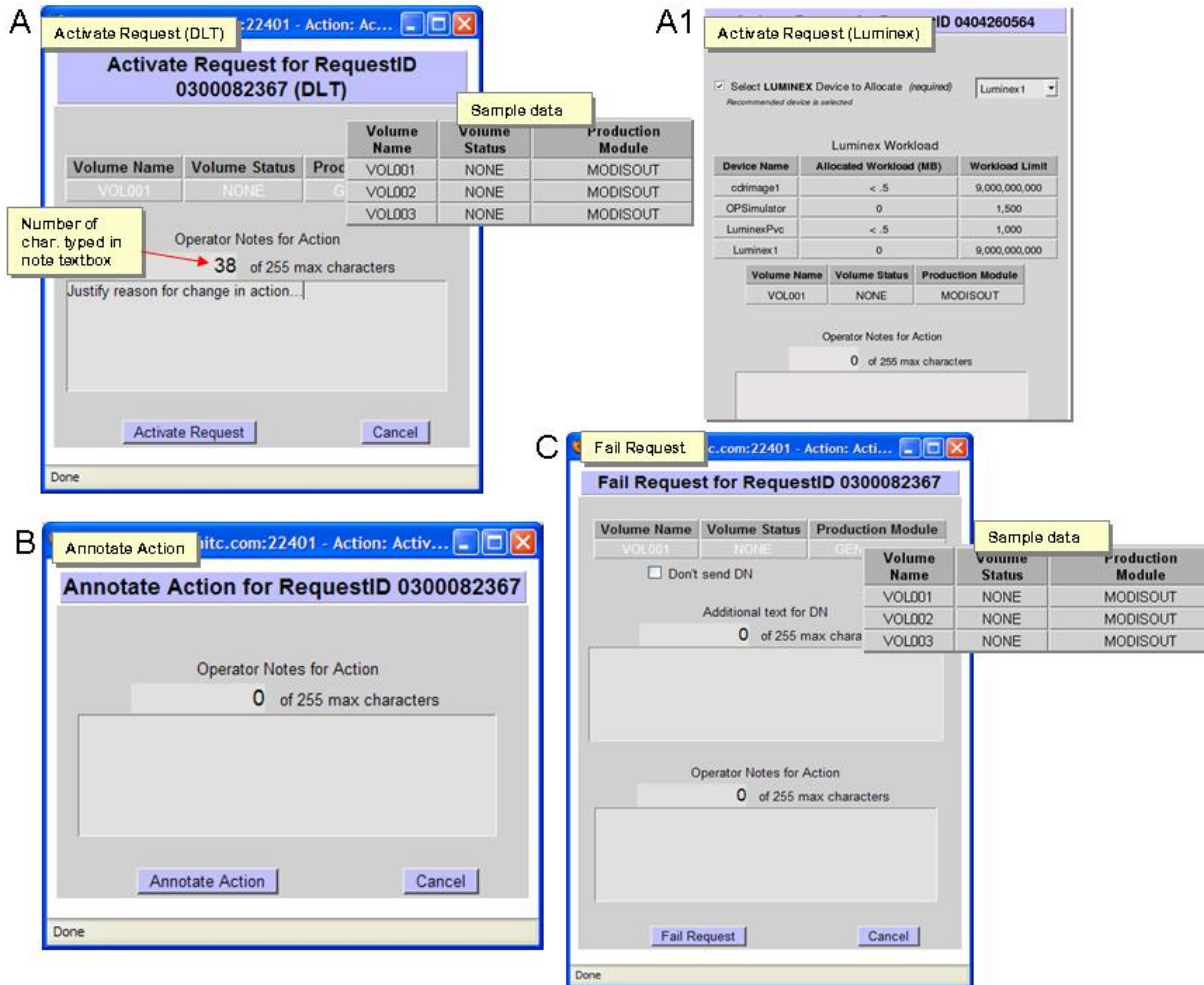

Figure 15.12-4. Activate (A, A1); Annotate (B); Fail (C) Requests Dialog Boxes
- Select button to Activate (Figure 15.12-4, Frame A, A1) or Annotate (Figure 15.12-4, Frame B) or Fail (Figure 15.12-4, Frame C) Actions.